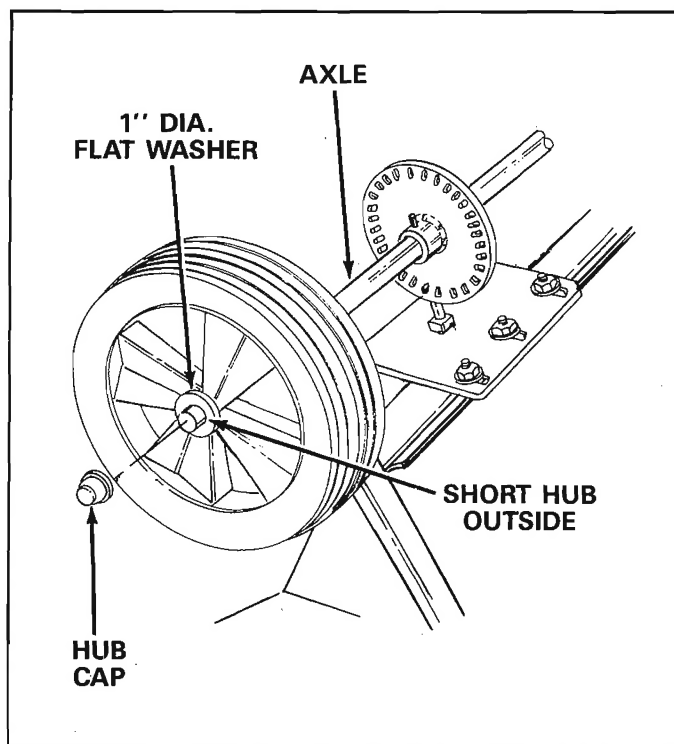

FIGURE 5
5. Place one 1" diameter flat washer and hub cap onto axle outside of wheel. Using small hammer lightly tap hub cap until snug against wheel. See figure 5.
16. Assemble the flow control link (the end with smallest hole) to the flow control arm using one 1/4" x 5/8" hex bolt and one 1/4" lock nut. See figure 5. **DO NOT OVER TIGHTEN, FLOW CONTROL LINK MUST PIVOT FREELY.**
3. If for any reason the axle, gear and sprocket assembly is disassembled, be sure to mark position of parts as they are removed. Drive wheel and sprocket position determine relation direction of spreader plate. See figure 5. With reassembly of gear and sprocket use shim washers (see page 10 Ref. No. 21) as needed for minimum backlash. Add grease to gear and sprocket.